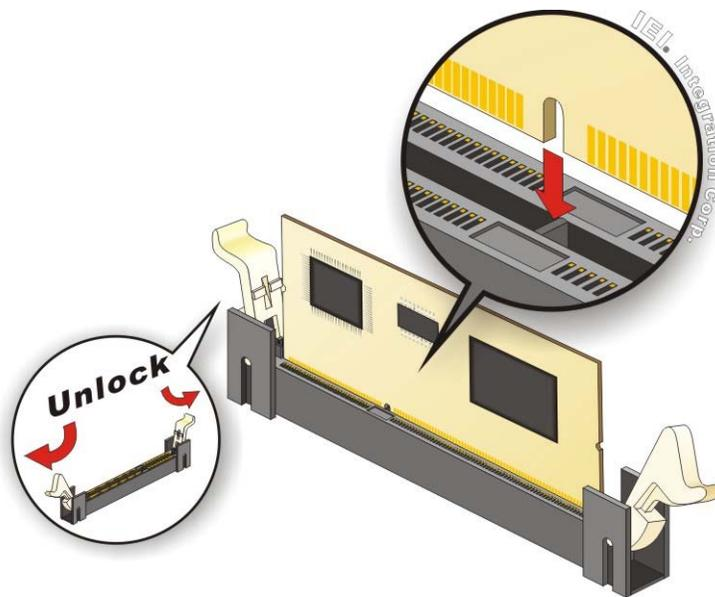

Figure 4-2: IPMI Module Installation
To install the iRIS-2400 module, please follow the steps below and refer to Figure 4-2.
- Step 1:** **Open the socket handles.** Open the two handles outwards as far as they can. See Figure 4-2.
- Step 2:** **Align the iRIS-2400 module with the socket.** Align the iRIS-2400 module so the notch on the module lines up with the notch on the socket. See Figure 4-2.
- Step 3:** **Insert the iRIS-2400 module.** Once aligned, press down until the iRIS-2400 module is properly seated. Clip the two handles into place. See Figure 4-2.